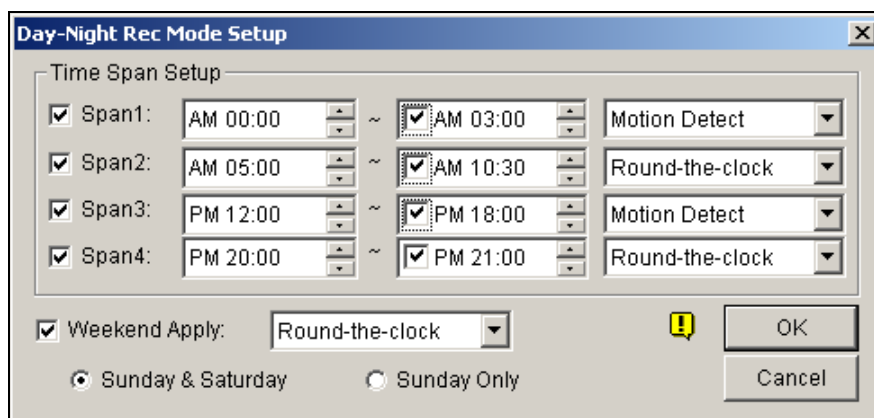

Figure 1-13
- **Arrow button:** Click to bring up the Day-Night Recording Mode setup dialog box (Figure 1-13).